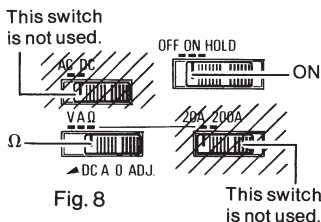

Fig. 8
- (1) Set the selector switches as shown in Fig. 8.